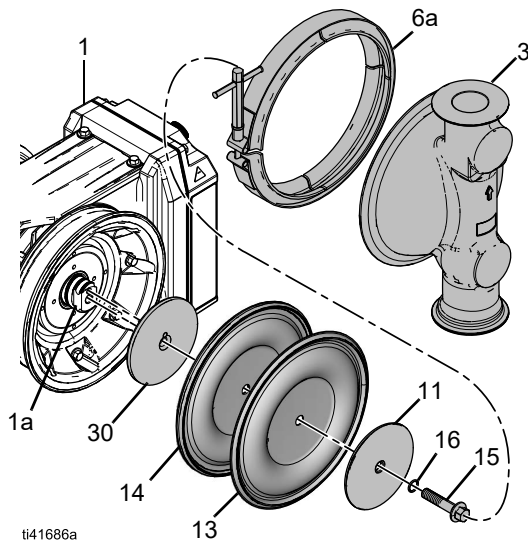
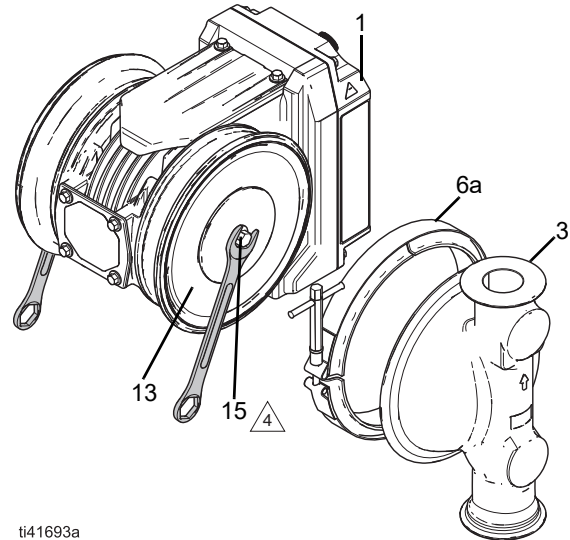

FIG. 21: Standard Diaphragms
FIG. 23: Tighten Standard Diaphragms
See FIG. 21–FIG. 23.
- a. Use an applicable wrench to firmly hold the flat of the shaft (1a) in place. At the same time, use an applicable wrench to loosen the remaining diaphragm fastener (15). See FIG. 23.
- b. After the flat of the shaft (1a) is accessible, use an applicable wrench to firmly hold the flat of the shaft (1a) in place. At the same time, use an applicable wrench to loosen the remaining diaphragm fastener (15). See FIG. 23.
7. Remove the remaining fastener (15), seal (16, if applicable), fluid plate (11), diaphragm (13), and diaphragm backer (14), and air-side plate (30) from the shaft (1a).
2. Install the assembled diaphragm assemblies into the shaft (1a) and hand-tighten the fasteners (15).
3. Use an applicable wrench to firmly hold one fastener (15) in place. At the same time, use an applicable wrench to torque the opposite fastener (15) to 50 ft-lb (68 N•m). See FIG. 23.